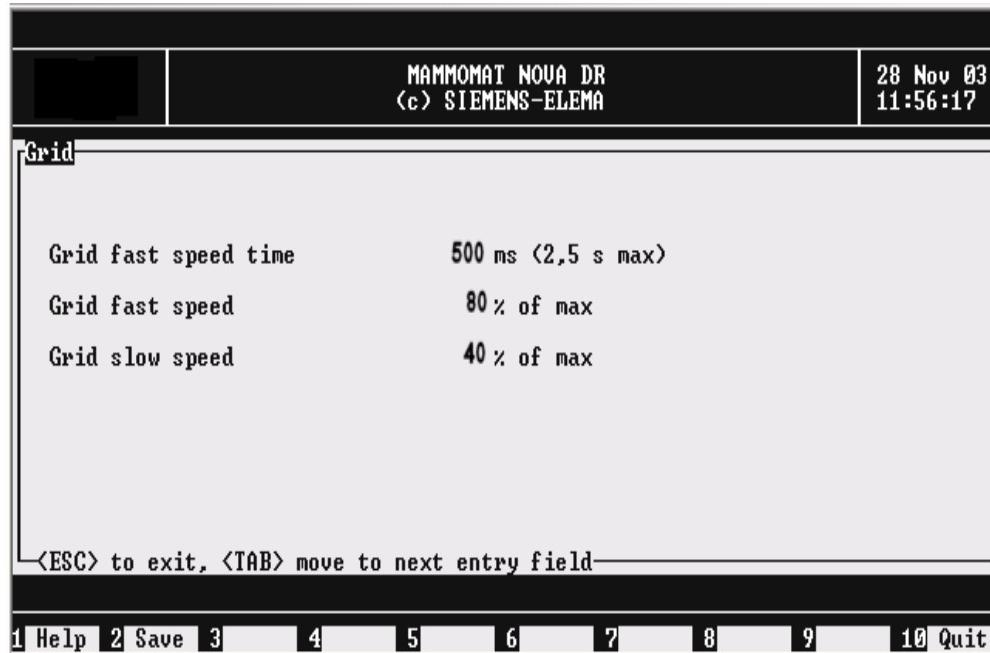

Fig. 8 Adjusting the grid motor speed
2. Set the parameter as shown in Fig. 8.